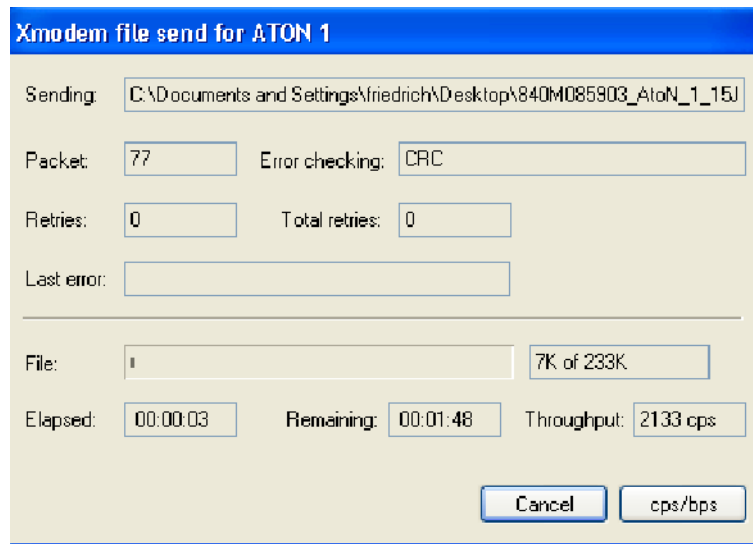

Figure B-2. ARM Firmware Update Transfer Screen
- (2) In the “HyperTerminal” menu pull-down bar, click “Transfer” and “Send File.”
- (3) When the “Send File” screen opens, click the arrow in the “Protocol” box and select “Xmodem.”
- (4) Click the “Browse” button to locate the ARM binary images, usually located in the “Aton Images” folder. Find the ARM executable binary image file. An example is “AtoN_1_14K.bin.” This name corresponds to Rev 1.14K of the ARM code. Unless otherwise directed, select the file with the highest version number.
- (5) Select the file by double-clicking on it in the file list. Click the “Send” button in the “Send File” window. As shown in Figure B-2, this begins the actual transfer.
- (1) Install a jumper on the AtoN Baseband board. Connect the Utility #1 port to “HyperTerminal” at “115200 Baud.” The BMS jumper must be installed on the Baseband Board at PL10, between pins 13 and 14. PL10 is the 14-pin header located at the board edge near the Atmel AT91RM9200 processor device. Pins 13 and 14 are the end pins of both rows of PL10 at the end nearest the slot cutout in the PC board that allows the RF connector to be accessed.
- (2) Power up the AtoN. The “HyperTerminal” console displays “C” characters at around one per second.
- (3) When the “C” characters are displayed, the ARM code update can begin. On the “HyperTerminal” menu pull-down bar, click “Transfer” and “Send File.”
- (4) When the “Send File” screen opens, click the arrow in the “Protocol” box and select “Xmodem.”
- (5) Click the “Browse” button and find the ARM binary images in the window, usually located in the “Aton Images” folder. Double-click on “SerBoot.bin” file.
- (6) In the “Send File” window, click the “Send” button. This begins the actual transfer, as shown in Figure B-2.
- (7) When the transfer ends, “C” characters are automatically generated.
- (8) Click the “Browse” button and find the ARM binary images in the window, usually located in the “Aton Images” folder. A sample file is “AtoN_1_14K.bin.” The name corresponds to Rev 1.14K of the ARM code. Unless otherwise directed, select the file with the highest version number.
- (9) Double-click on the binary file. Click the “Send” button in the “Send File” window. This begins the transfer of the binary image.
- (10) When the binary file is completely transferred, “C” characters are automatically generated on the screen.
- (11) Remove the BMS jumper and power the board up again. The unit should boot normally and trace messages should appear in the “HyperTerminal” window.